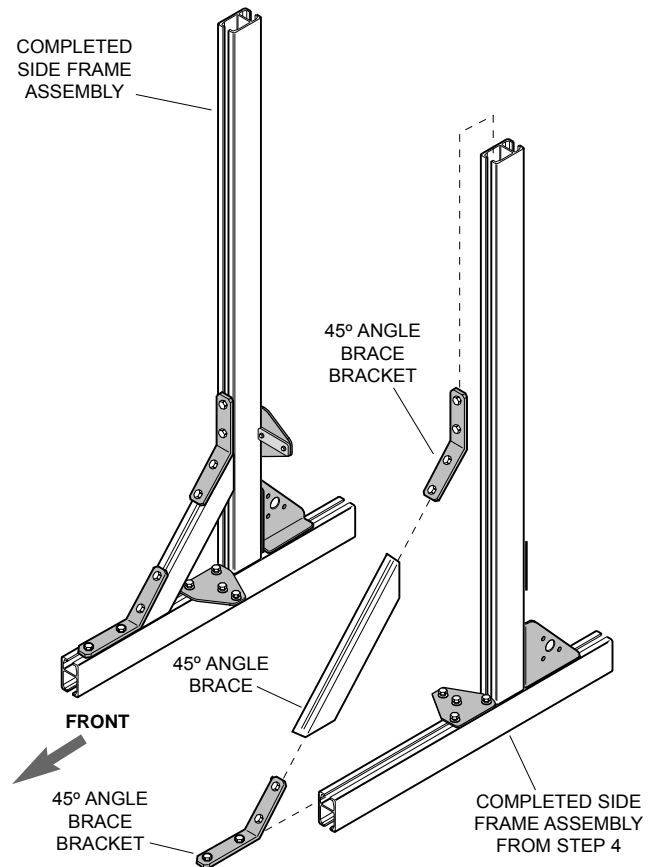

Figure 5.
5. Assemble angle braces to frame lower side members and uprights by simultaneously sliding one 45° bracket and angle brace into lower side member and the other 45° bracket down into angle brace and upright. Securely tighten all bolts (Fig. 5).